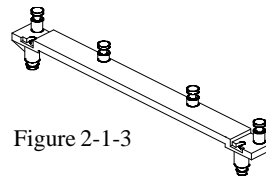

Figure 2-1-3
- Heat Sink Support Base (HSSBASE) - Plastic support bar mounted to the mainboard under the ATX heat sink. (Refer to Figure 2-1-3)